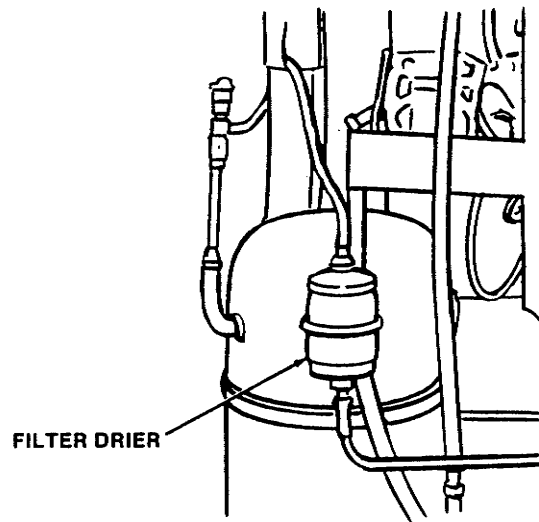

Figure 60. Filter Drier
12. Remove the old filter drier and install a new filter drier using the appropriate brazing material (Fig. 60).